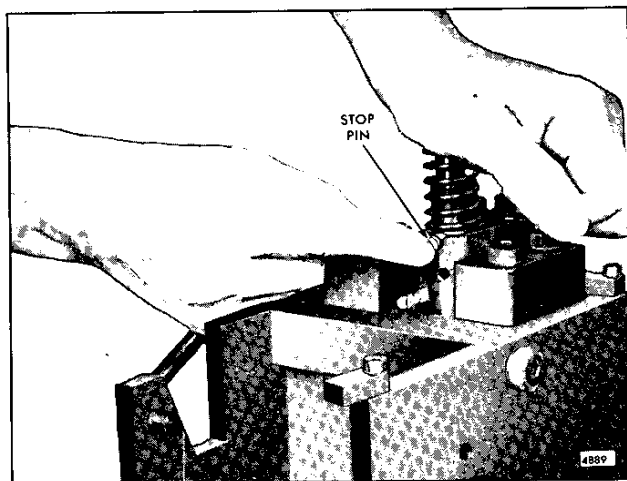

Fig. 32 - Installing Injector Follower Stop Pin
24. Refer to (Fig. 32) and place the stop pin on the injector body so that the follower spring rests on the narrow flange of the stop pin.